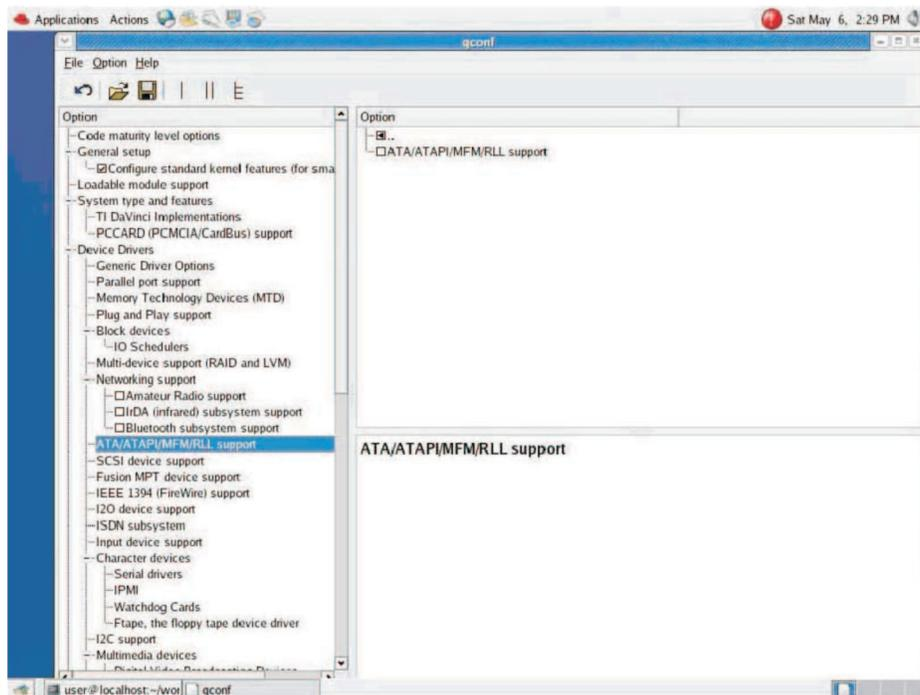

Figure 7. Disabling ATA Driver Support
3. Go to *ATA/ATAPI/MFM/RLL Support* (under *Device Drivers*) and uncheck the main box. This disables the ATA drivers for the HDD so that the NAND file system is included instead. Refer to Figure 7.